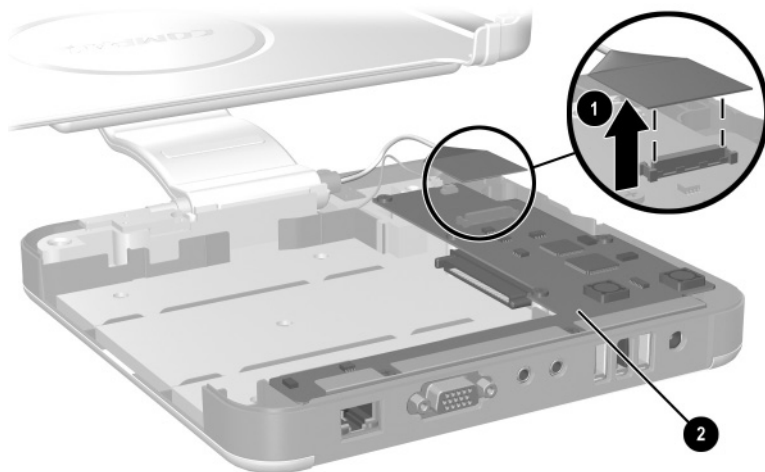

Figure 5-32. Disconnecting the Docking Stand Cable
6. Disconnect the docking stand cable ❶ from the board assembly ❷ (Figure 5-32).